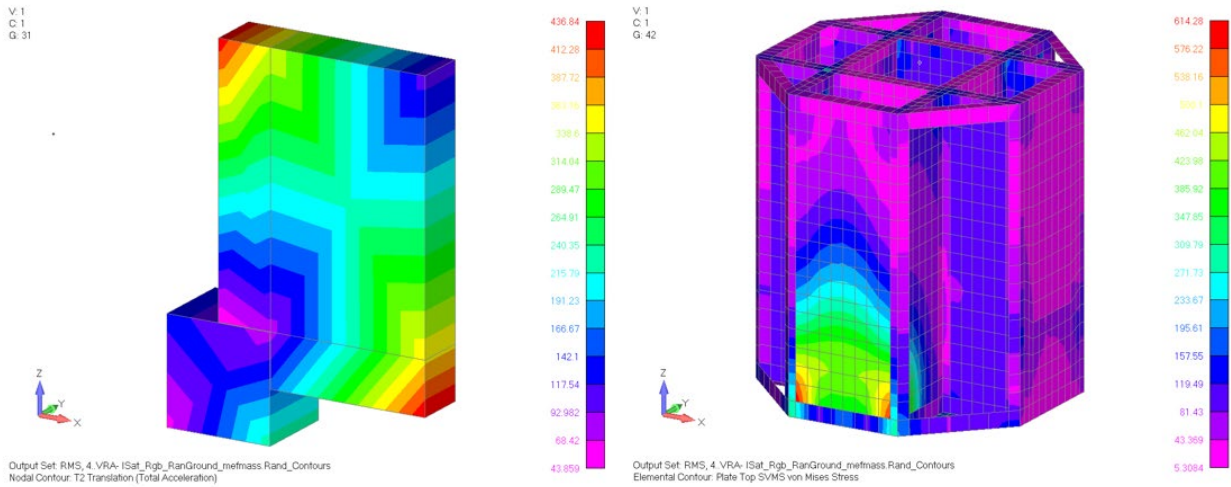
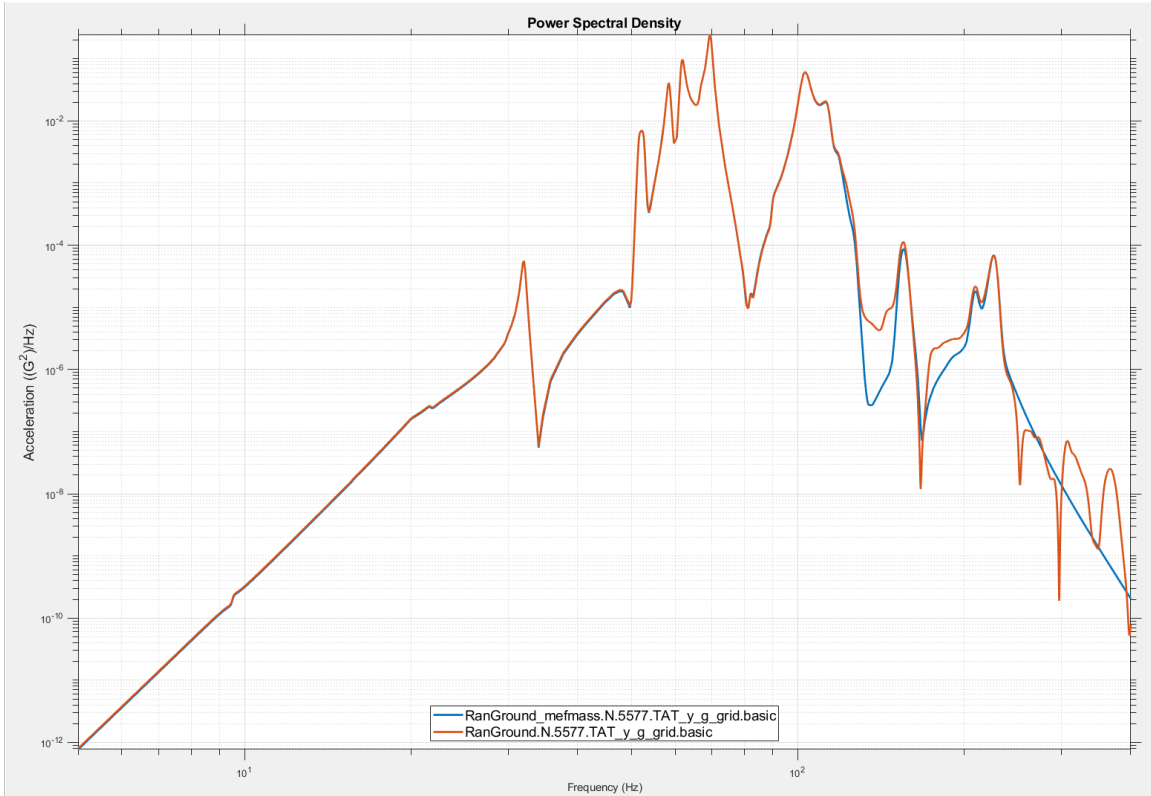
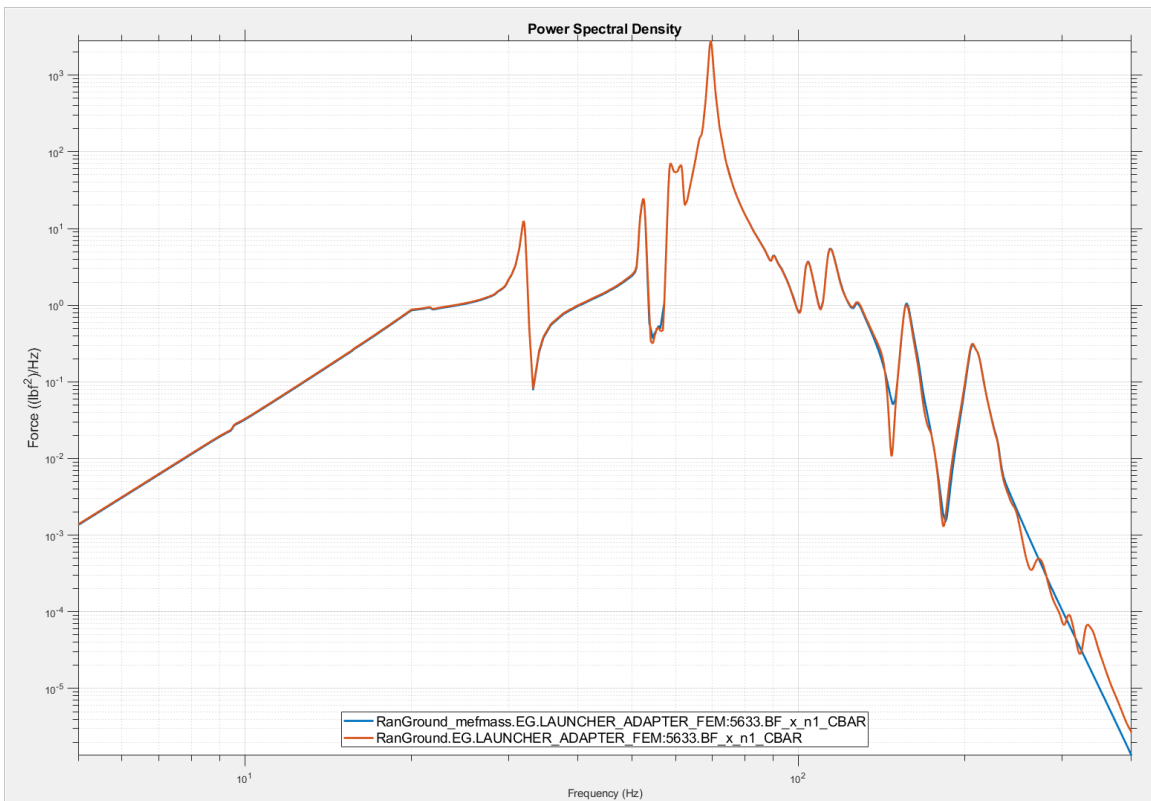

Figure 4-74. The mass-filtered contours are visually identical to those from the original event.
Figure 4-75. The node 5577 response shows differences at high frequencies, but RMS values match.
Figure 4-76. The adapter-leg axial force again shows differences only at high frequencies.
- Solve the event. Here again, the contour results (Figure 4-74) are visually indistinguishable from those of the original event (Figure 4-47, Figure 4-48). The XY Plot results, however, do show some differences. We deactivated all the modes from 240 Hz to 400 Hz, so neither the Y-acceleration response PSD (Figure 4-75) nor the axial force response PSD (Figure 4-76) has any dynamic content in that range, while the original event does. However, the RMS values for the two cases match to 3 significant digits for both acceleration and axial force. In these plots, the orange curve is for the current (mass-filtered) event, and the blue curve is for the original (all-modes-active) event.